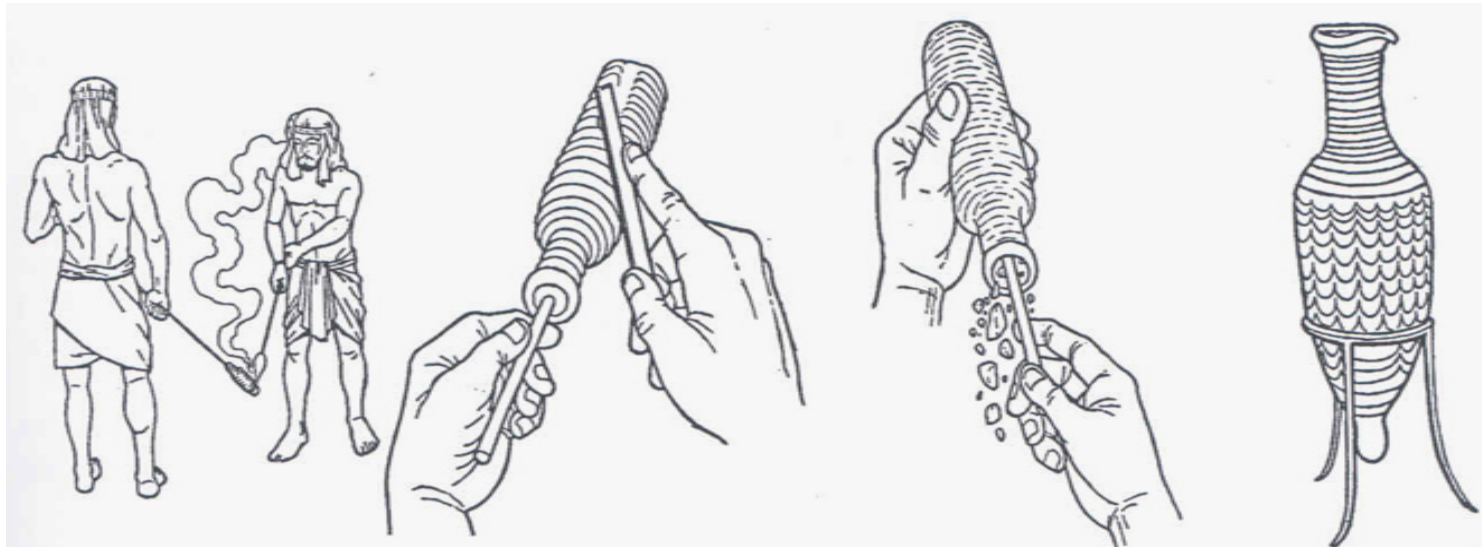

Figure 1.2 Forming a hollow glass vessel around a core
- Glass containers, the ancient packaging materials, core-formed ancient Egyptian glass containers (Figure 1.2).